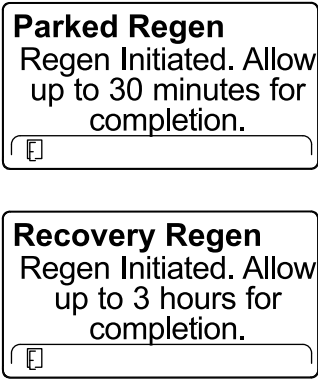

Figure 58
6. The InfoCenter displays the time to complete message (Figure 58).